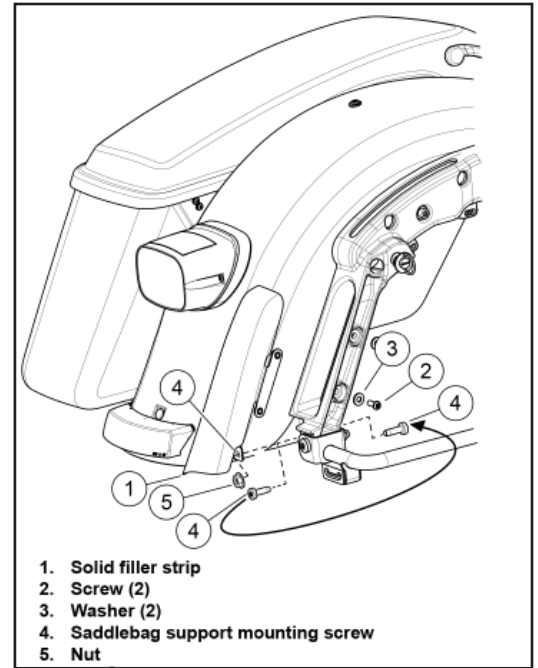

Figure 1.
2. See Figure 1. Remove bottom saddlebag support mounting screw (4) and nut (5). Save hardware for installation.
4. Secure the filler strip with screws (2) and washers (3). Tighten screws finger tight.
5. Install the filler strip to the support bracket with support mounting screw (4) and nut (5). Install screw from front to rear. Do not tighten.
- a. Tighten button head screws (2) to 5-8 ft-lbs (6.8-10.8 Nm).
- b. Pan head screws (4) to 15-20 ft-lbs (20.3-27.1 Nm).